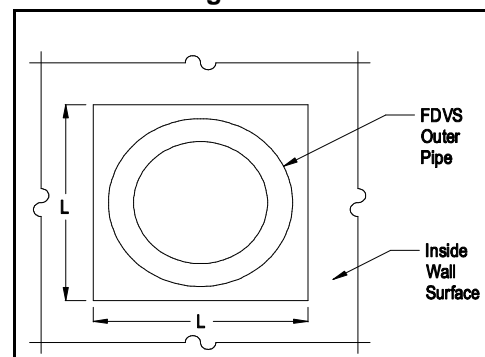
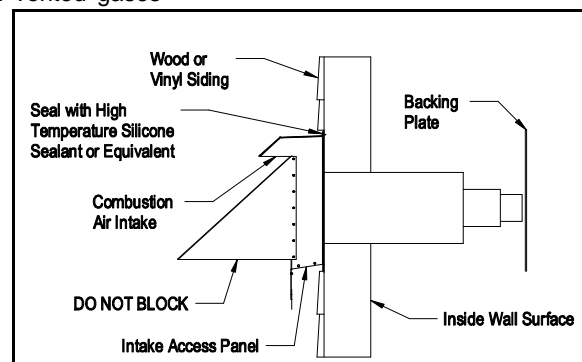

Figure 1 – End View
Figure 2 – Side View
4. After determining the location of the venting system termination (See Diagram A), cut a hole in the wall sized according to "L" dimension in Table 1. (See Figure 1)
5. Seal the back side of the base plate around the outer pipe of the vent termination with a bead of high temperature silicone sealant. (See Figure 2) Mount the vent termination through the wall, keeping the outer pipe centered in the hole. (See Figure 1) Fasten the vent termination to the outside wall with appropriate fasteners. Seal the edges of the vent termination base plate to the wall with a high-temperature silicone sealant.
6. Mount the backing plate over the outer pipe. Fasten the backing plate to the inside wall with appropriate fasteners. (See Figure 2) DO NOT BLOCK the intake or exhaust openings, or the intake access panel on the vent termination body. Wood or vinyl siding should be cut so that the unit mounts directly on the wallboard to provide a stable support. If the siding is greater than 1/2" thick use a spacer plate or board behind the vent termination mounting plate. (See Figure 2)
As part of the yearly maintenance schedule, remove the Intake Access Panel on the exterior of the FDVS vent termination (See Figure 2) and remove any debris or foreign material. Be sure to properly replace the panel.